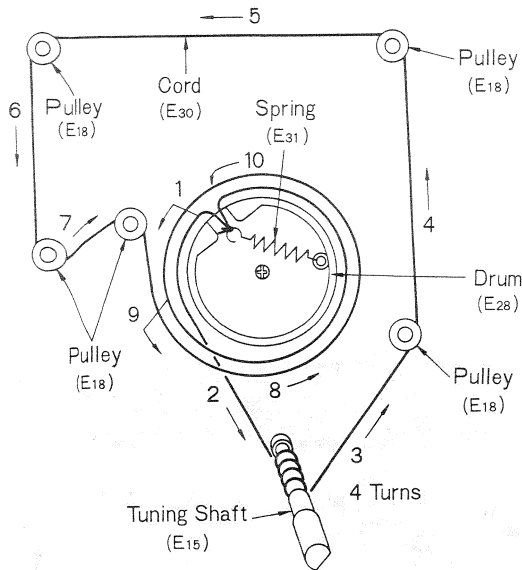

Fig. 27
- 5. Arrows (1~10) indicate correct order and direction of cord installation, as shown in fig. 27.